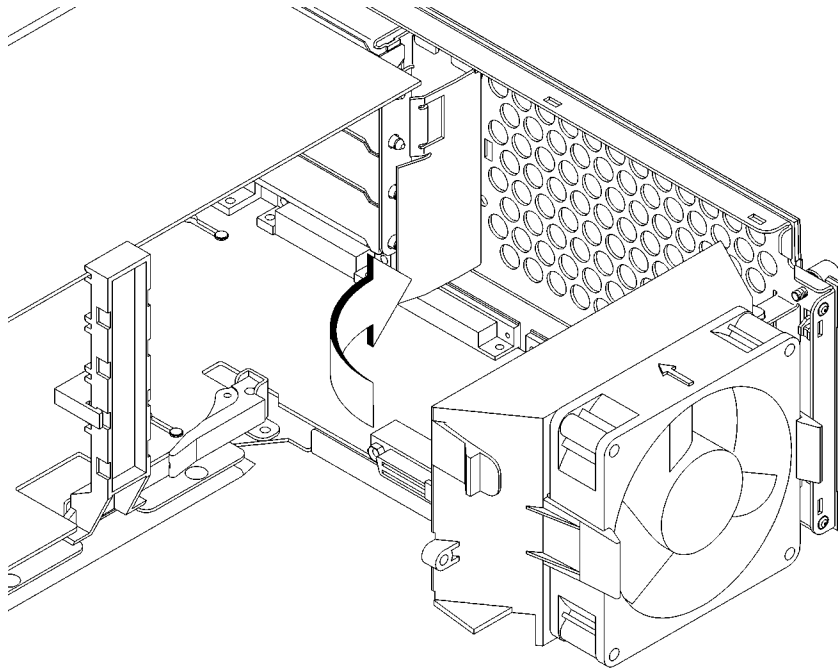

Figure 48
- 13 Rotate the fan back into place, as shown in Figure 48. Push it into the rear panel firmly until the clip snaps into place.